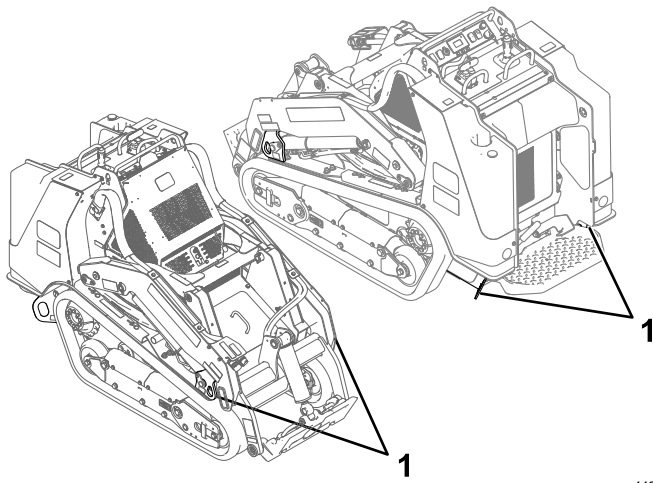

Figure 27
8. Use the metal tie-down loops on the machine to securely fasten the machine to the trailer or truck with straps, chains, cable, or ropes (Figure 27). Refer to local regulations for tie-down requirements.